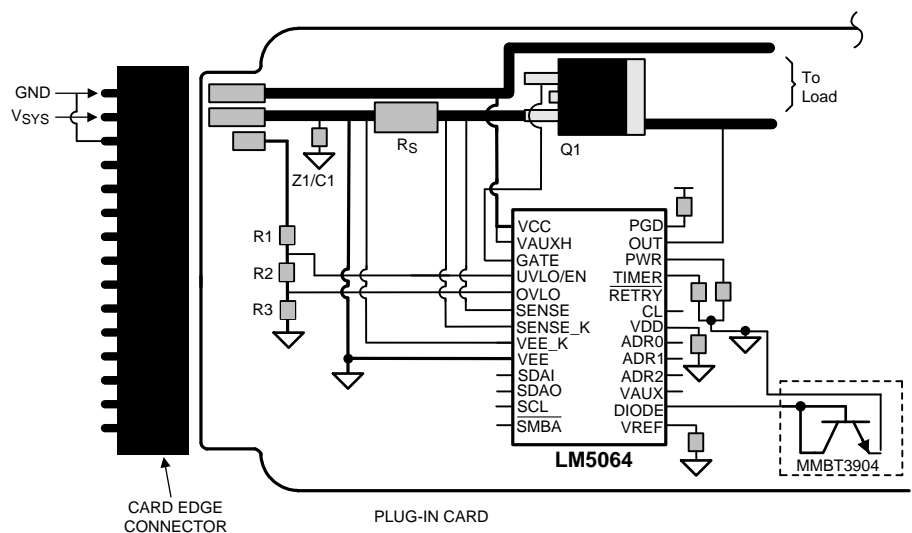

Figure 18. Recommended Board Connector Design
- The board's edge connector can be designed such that the LM5064 detects via the UVLO/EN pin that the board is being removed, and responds by turning off the load before the supply voltage is disconnected. For example, in Figure 18, the voltage at the UVLO/EN pin goes to VEE before V_{SYS} is removed from the LM5064 as a result of the shorter edge connector pin. When the board is inserted into the edge connector, the system voltage is applied to the LM5064's V_{SYS} pin before the UVLO voltage is taken high, thereby allowing the LM5064 to turn on the output in a controlled fashion.